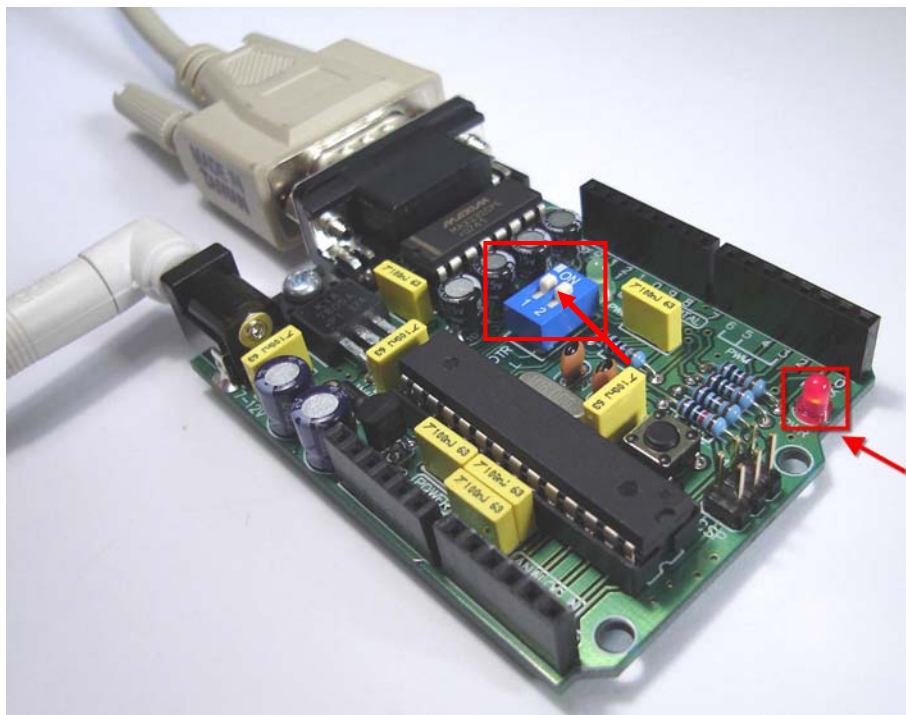

Figure2.3.1
- 2.3.1. Connect the Dino (Arduino Compatible) Board to your computer via RS232 cable and power supply 7-12VDC via DC Jack pole (**Outer pole is negative pole and Inner pole is positive pole**) then PWR-LED (Red LED) will be lighted as figure2.3.1 and choose DIP switch position1 (DTR) & position2 (L) are “**ON**” as figure2.3.1.